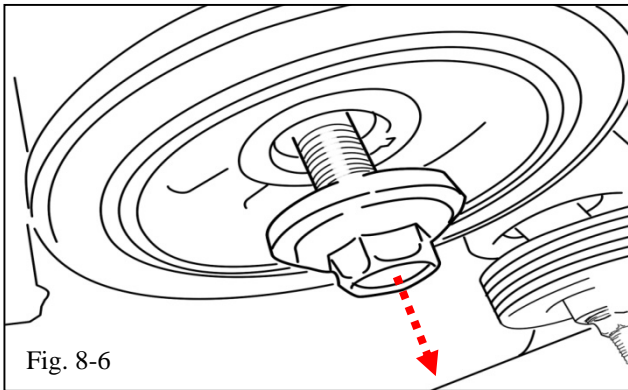

Fig. 8-6
- (g) Use an impact gun to remove the bolt and washer that secures the crankshaft pulley (Fig. 8-6). Discard the bolt and washer. **Do not remove the pulley.**